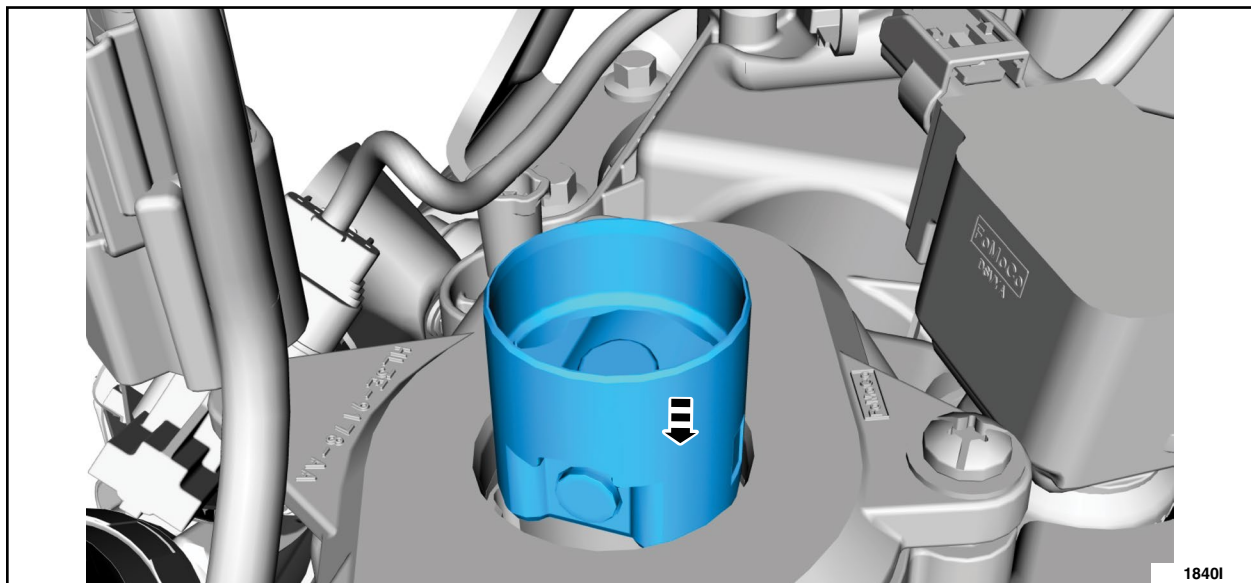

FIGURE 8
11. Install the high-pressure fuel pump roller tappet. See Figure 8.